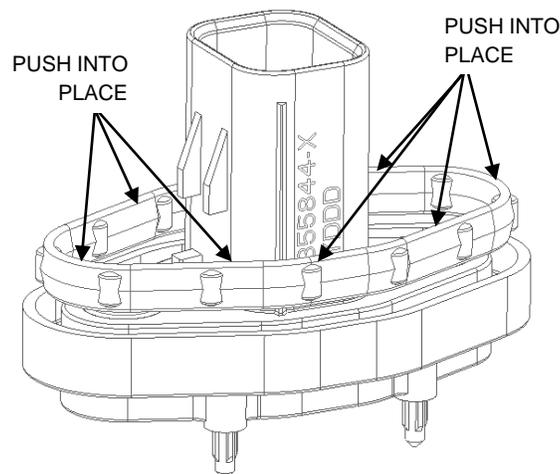

Figure 11
- i. If the flange seal has shipped separately or been removed from its groove, simply align the seal with the seal groove of the header housing and push it into place with a clean finger until the seal completely bottoms in the groove along the entire seal track as seen in Figure 11.